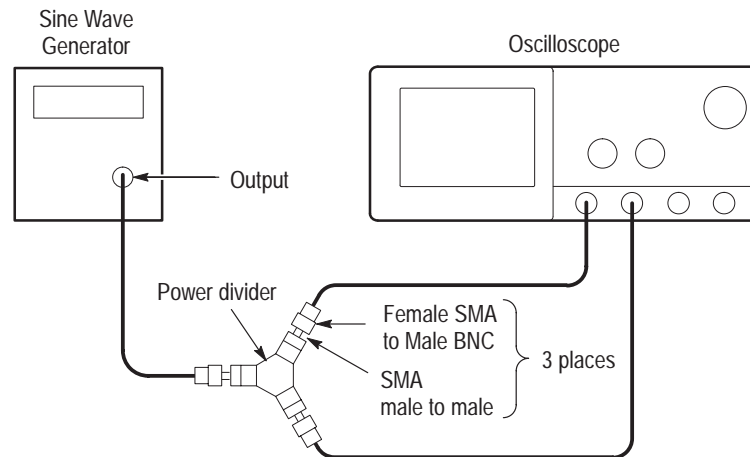

Figure 4–10: Initial test hookup
- Connect the coupler to both **CH 1** and **CH 2**. See Figure 4–10.
- Display the live waveform. Move the coupler from **CH 3** to **CH 4**, so that CH 1 and CH 4 are driven. (Use AUX1 and AUX2 instead of CH3 and CH4 if your TDS model is so equipped). Press **CH 4** to display. See Figure 4–11 on page 4–51.
- Display the reference waveforms. To do this, press the front-panel button **MORE**. Press the main-menu buttons **Ref 2** and **Ref 3**. You may notice their overlapping ground reference indicators. See Figure 4–11 on page 4–51.
- Locate the time reference points for these waveforms. Do this by first identifying the point where the rising edge of the left-most waveform crosses the center horizontal graticule line. Next, note the corresponding *time reference point* for the right-most waveform. See Figure 4–11 on page 4–51.
- Align one V bar cursor to the *time reference point* of the left-most waveform edge and the other cursor to the *time reference point* of the right-most waveform edge by rotating the General Purpose knob. (Press **SELECT** to switch between the two cursors). See Figure 4–11 on page 4–51.